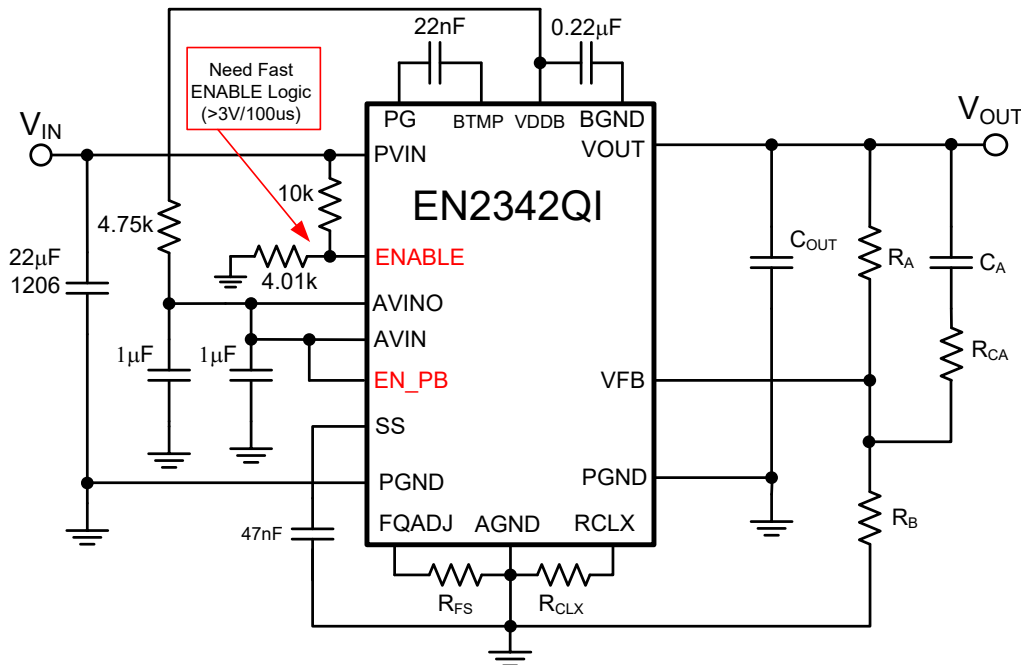

Figure 7. Pre-Bias Application Circuit
- A resistor divider must be connected from PVIN to ENABLE to Ground (10k on top, 4.02k on the bottom) to ensure proper shutdown. The resistor divider will disable the device when PVIN falls below approximately 4.5V. The resistor divider values may be adjusted accordingly to meet PVIN requirements. See Figure 7.
The output will start up from the Pre-Bias voltage into regulation monotonically if the instructions are followed; otherwise, the Pre-Bias Protection feature may not function properly. Starting up into a Pre-Bias voltage without the Pre-Bias Protection feature enabled can lead to device damage. When using the Pre-Bias feature, the device must be disabled using the ENABLE pin prior to PVIN falling out of regulation ($<4.5V$), otherwise damage may occur during shutdown. To disable the Pre-Bias feature pull the EN_PB pin directly to ground. Do not leave the EN_PB pin floating. See Typical Performance Characteristics for an example of Pre-Bias Protection. See Figure 7 for a typical schematic with Pre-Bias Protection enabled.